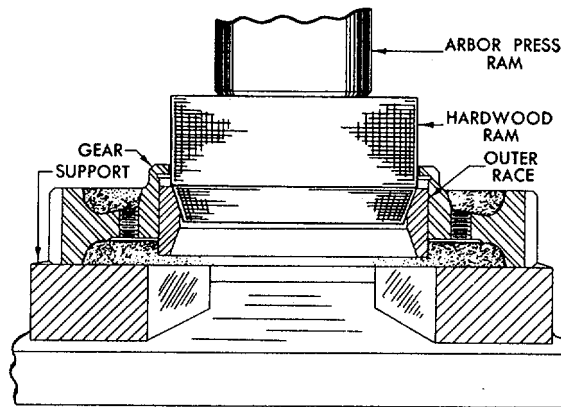

Figure 3-62. Hardwood ram for pressing outer race from gear.
- (f) Make a hardwood ram as shown in figure 3-62. Then position the idler gear in the arbor press and with the gear suitably supported, press the outer race from the gear.